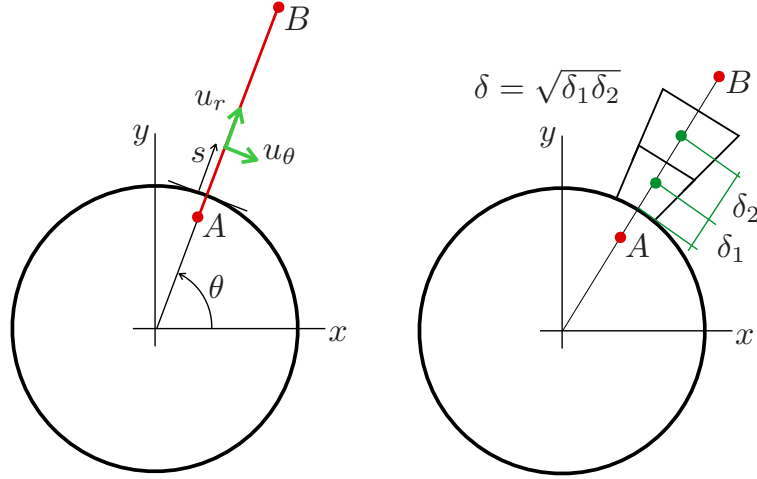

Figure 1: Schematic of the solution sampling strategy and the definition of $\delta = \sqrt{\delta_1 \delta_2}$.
- **Radial and tangential velocity normal to the cylinder's wall.** Extract the u and v components of velocity along a line at various angles θ using the sampleDict file and sample utility. See Fig. 1 for an example.
- Include plots of e_{rr} and $e_{r\theta}$ at the wall as a function of $1/\delta$ for various meshes. δ is a measure of the linear size of the mesh near the wall, defined as in Fig. 1. Use a combination of logarithmic and linear scales and make sure the plots are clear.